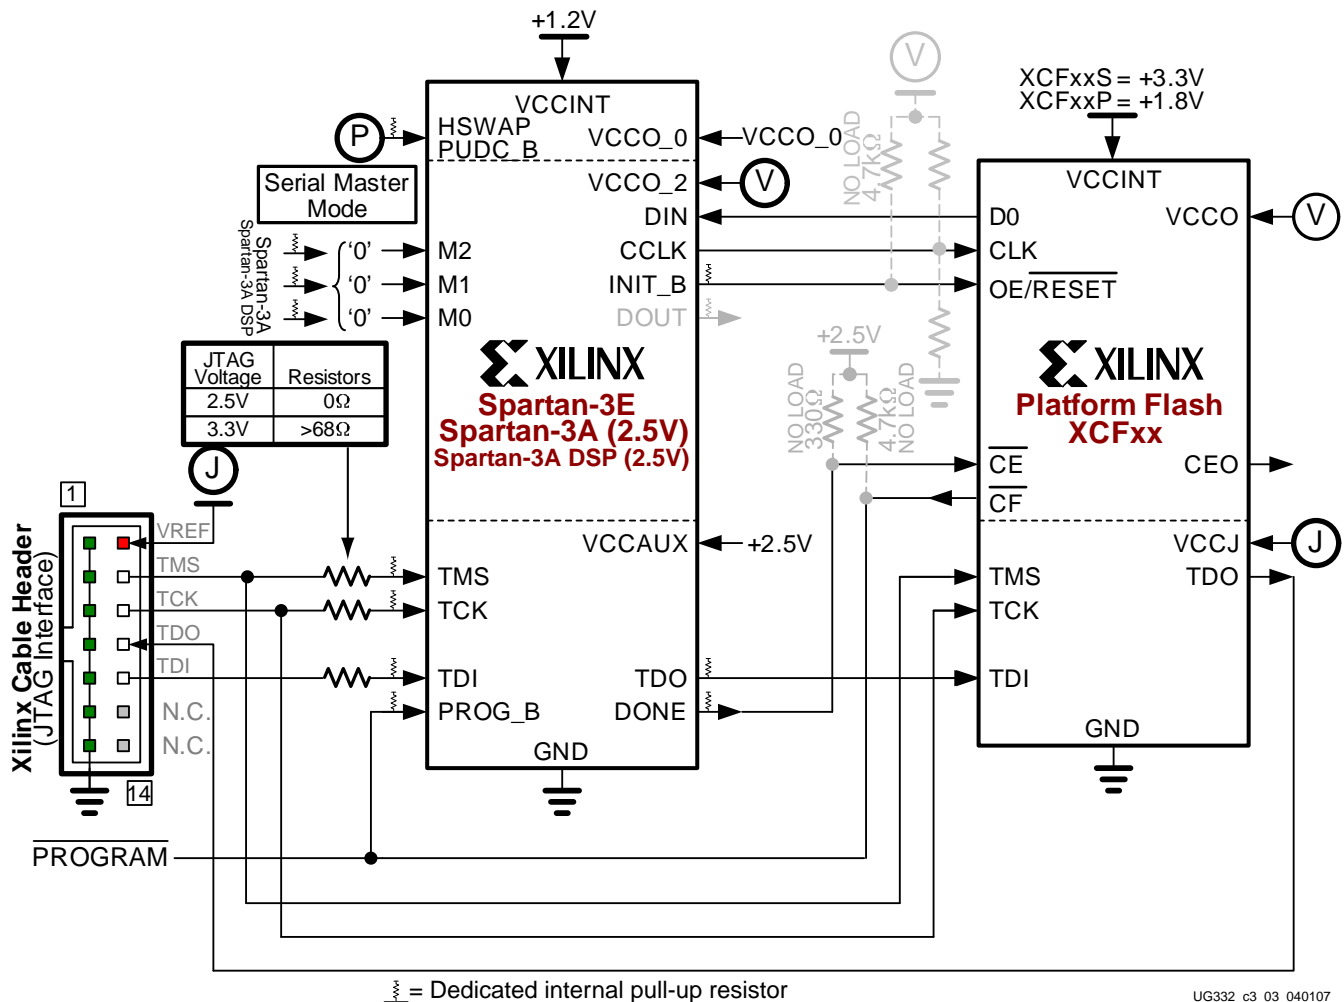

Figure 3-1: Master Serial Mode Using Platform Flash PROM
In Master Serial mode ($M[2:0] = <0:0:0>$), the Spartan-3 generation FPGA configures itself from an attached Xilinx Platform Flash PROM, as illustrated in Figure 3-1, Figure 3-2, and Figure 3-3.
- Figure 3-1, page 74 illustrates the Master Serial configuration interface for Spartan-3E and Spartan-3A/3A DSP FPGAs when the FPGA’s V_{CCAUX} supply is at 2.5V. Spartan-3E FPGAs